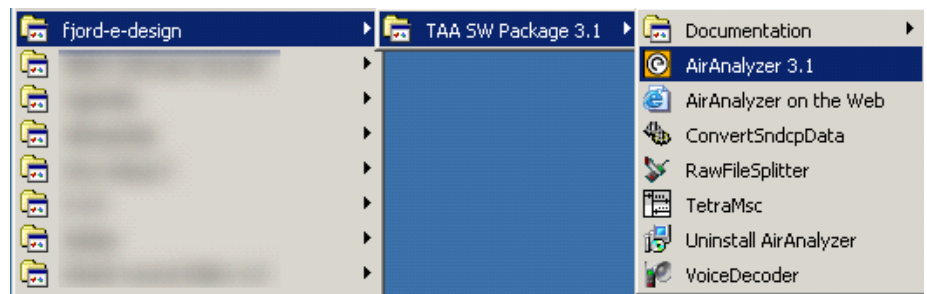

Figure 20 Launching a TETRA AirAnalyzer application
- 2 The TETRA AirAnalyzer software can be called up from **Start > Programs > fjord-e-design** (see Figure 20). It may contain shortcuts (depending on the installed components) to the installed AirAnalyzer applications: AirAnalyzer, TetraMsc, RawFileSplitter, ConvertSndcpData and VoiceDecoder.